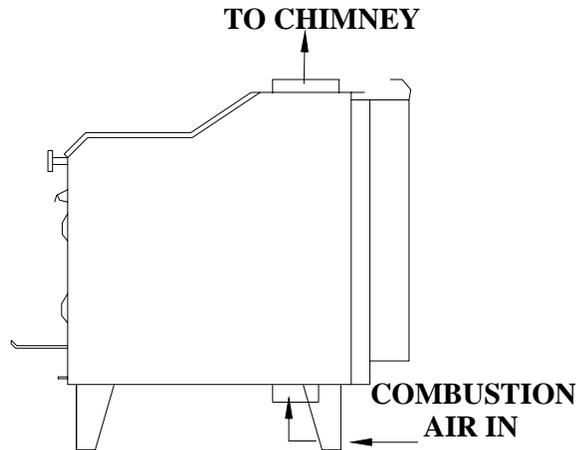

FIGURE 5: QUEEN ANNE LEG INSTALLATION
2. Refer to **FIGURE 5** for a diagram and refer to this paragraph's instructions on how to mount the Queen Anne leg kit to a Model R catalytic stove. If the installer is working with a different model catalytic stove, the instructions and mounting procedures are the same as the Model R.
- a. Locate the eight (8) bolts that are included with the four Queen Anne Legs.